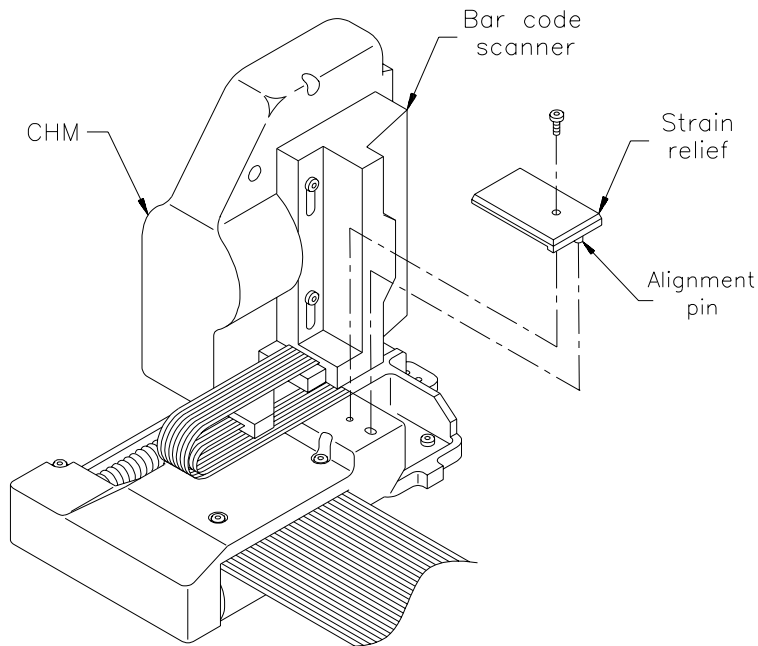

Figure 9 Replacing the strain relief
11. Use a T-10 TORX screwdriver and one 4-40 × 0.375 panhead screw to replace the strain relief (see Figure 9). Tighten the screw to 4.5 inch-pounds (5.2 kg-cm) of torque.